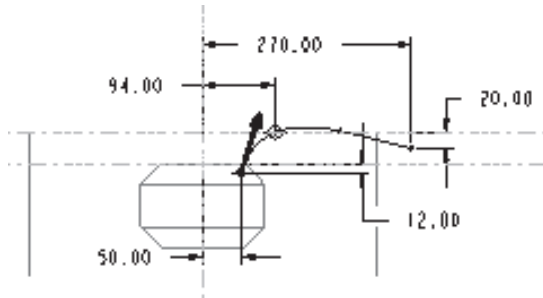

Figure 8-69 Sketch with dimensions for the origin trajectory
12. Draw the sketch of the trajectory and add constraints and dimensions as shown in Figure 8-69. In Figure 8-69, the hidden lines are also shown because in this case the display of the sketch is more clear while drawing the sketch with display of hidden lines. The curve is drawn using the spline. The spline has only four control points: one start point, one endpoint, and two intermediate point. The dimensions shown in Figure 8-69 are enough to define the sketch.